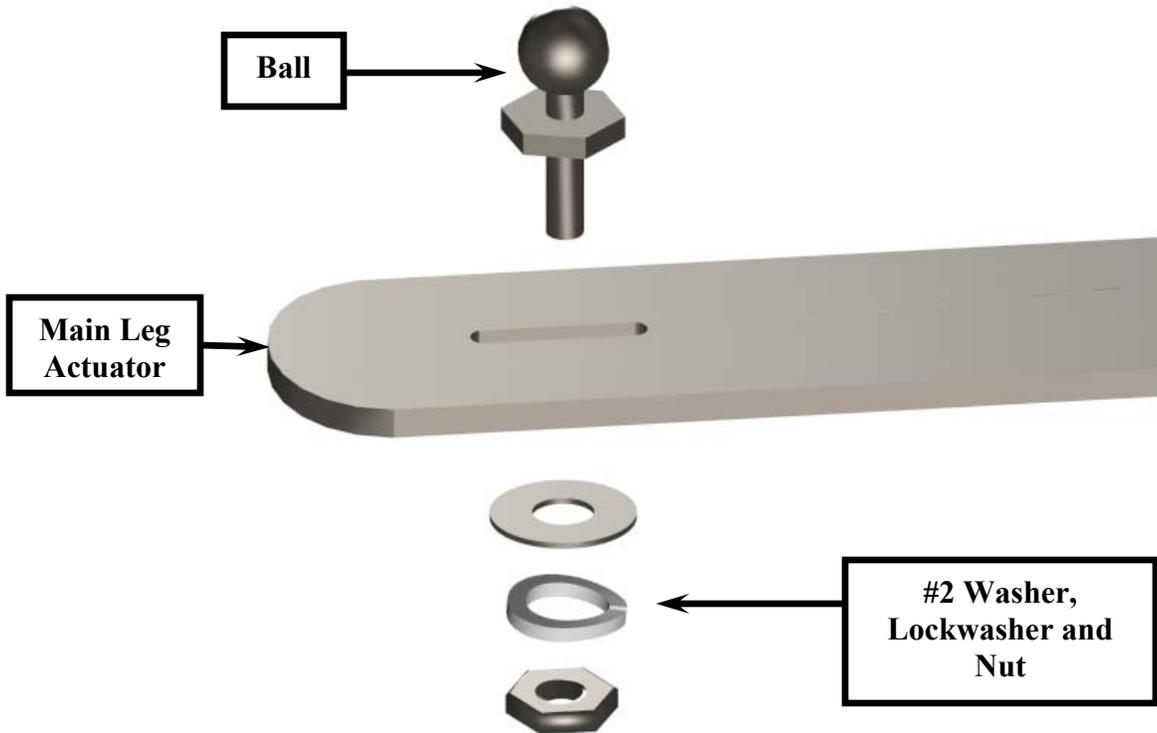

Figure 7: Leg Actuator Assembly
4. Install the Du-Bro 2-56 threaded ball link to all (6) of the main leg actuators as shown in Figure 7 below. Ensure that the ball link is centered in the slot.